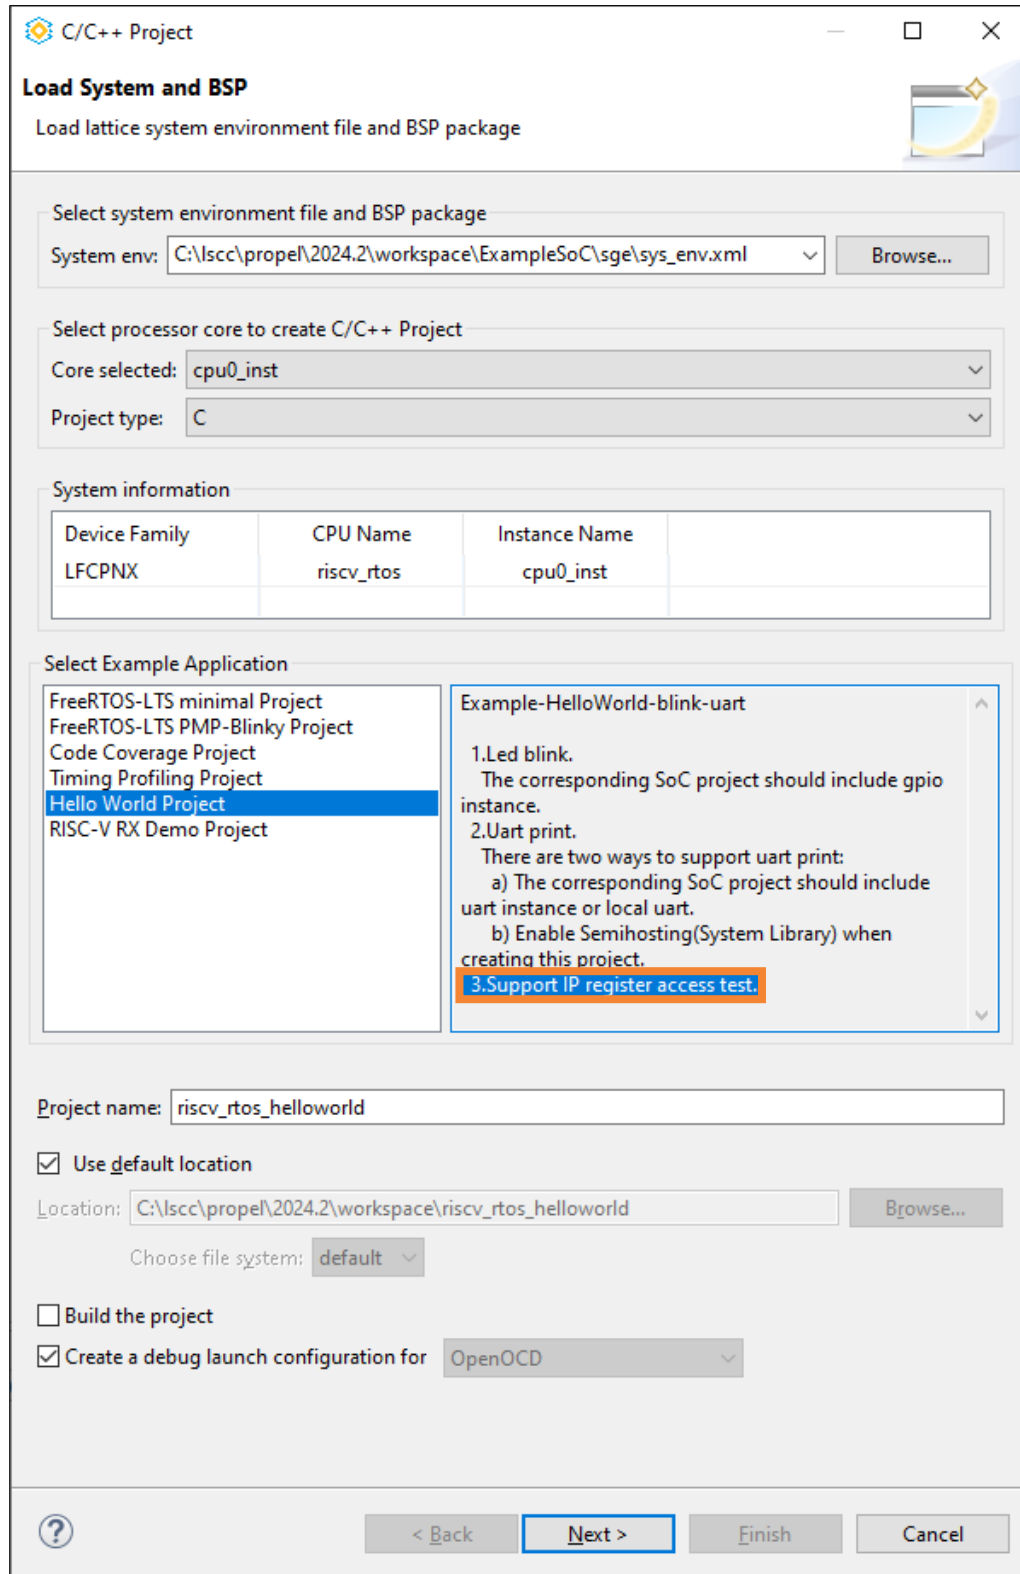

Figure F.2. Load System and BSP Page 9
3. Create a corresponding C project, choose an example application that supports IP register access test (Figure F.2).